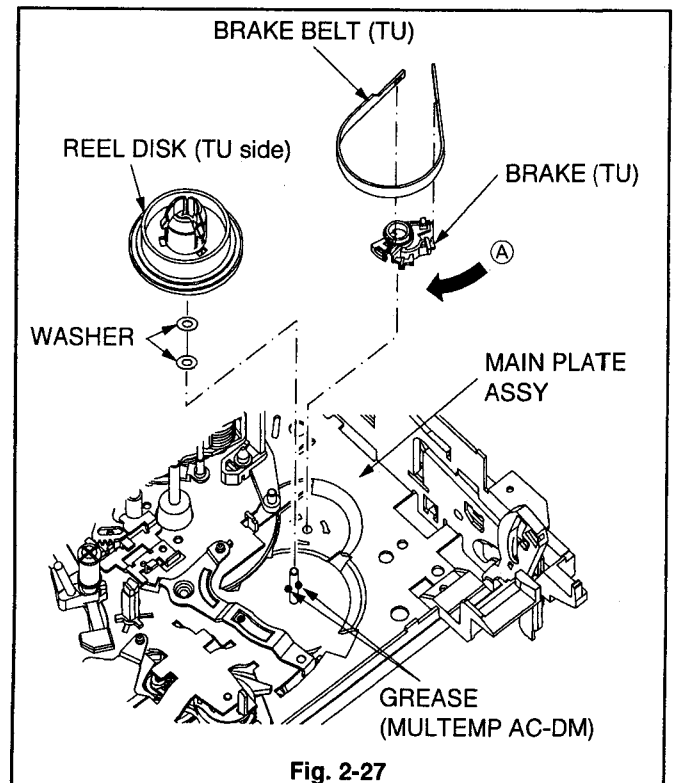

Fig. 2-27
1. Move the BRAKE (TU) in the Fig. 2-27 in the direction shown by the arrow (A) to remove it.
2. Remove the BRAKE BELT (TU) from the BRAKE (TU).
3. Remove the REEL DISK (TU).
1. Apply GREASE (MULTEMP AC-DM)[859D055O90] to the parts on the MAIN PLATE ASSY specified in the Fig. 2-27.
3. Install the BRAKE BELT (TU) to the BRAKE (TU).
4. Install the BRAKE (TU).
5. Hook the BRAKE BELT (TU) to the REEL DISK (TU side).